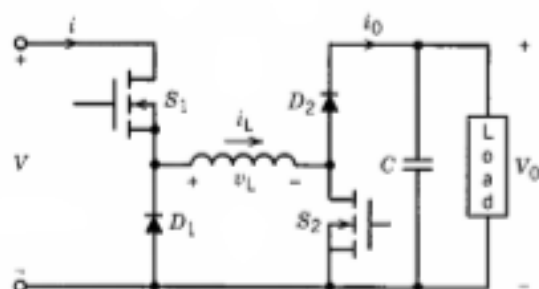

FIGURE P10.23
**10.23** In the chopper circuit shown in Fig. P10.23, the two switches are simultaneously turned on for time  $t_{on}$  and turned off for time  $t_{off} = T - t_{on}$ , where  $T$  is the chopping period. Assume voltage  $v_o$  to be ripple-free and current  $i_L$  to be continuous.